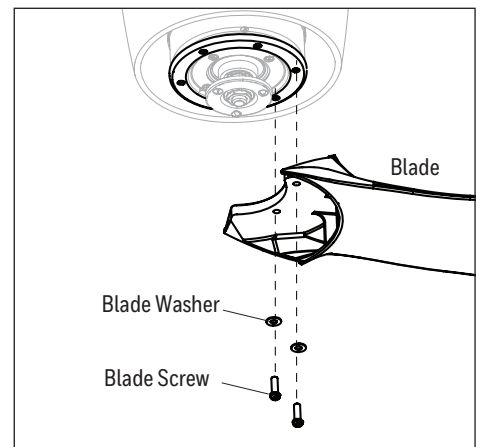

Figure 4.3
3. Align the holes of one blade with two blade screw holes in underside of the motor assembly. Secure with the two blade screws and blade washers. Repeat this step for the remaining blades (Figure 4.3).